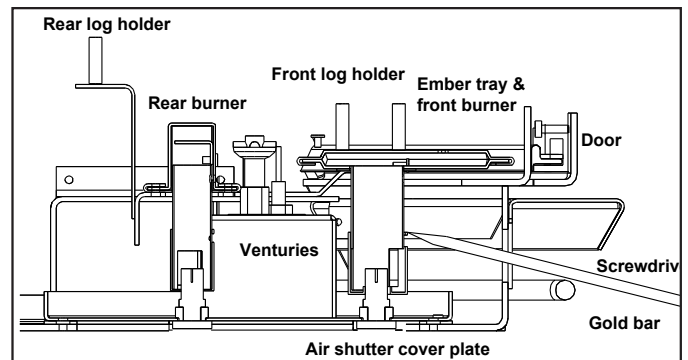

Figure 5: Venturi Adjustment.
- There is a separate venturiers for each burner, see Figure 5.